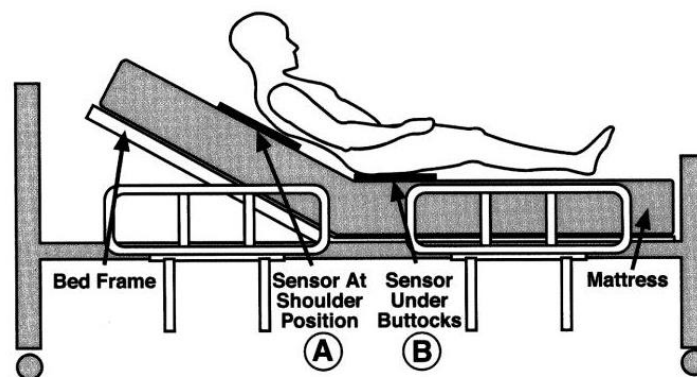

Figure 1 – Reprocessed Posey® Bed Alarm Sensor Pad Positioning
4. Choose a position for sensor pad (refer to Figure 1):